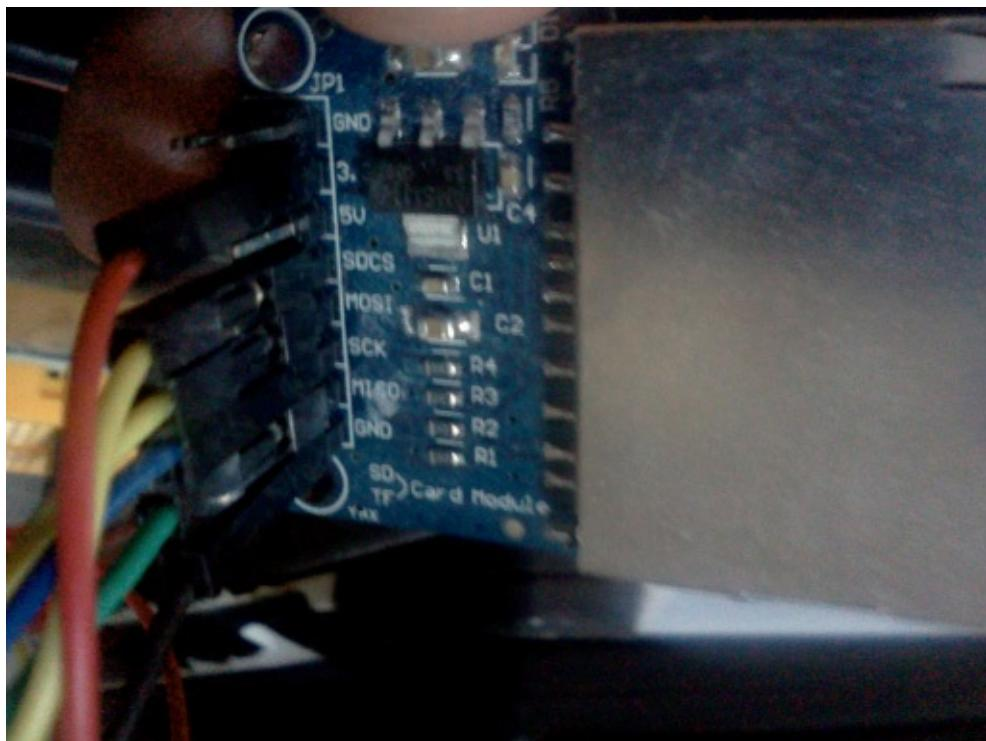

Figure 5-2. SD card
- Connecting the 3.3 V pin on the card reader to the 3.3v output on the Arduino. Important Note: There are two pins for each input/output item for the SD card. I recommend using the pin closest to the pin label since I have seen comments that on some cards the pin that is farthest from the pin label does not work. See Figure 5-2 to see how I set up my SD card.